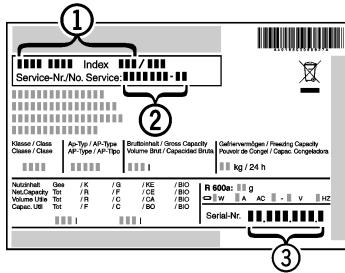

Fig. 10
- Read the appliance designation *Fig. 10 (1)*, service no. *Fig. 10 (2)* and serial no. *Fig. 10 (3)* from the rating plate. The rating plate is located inside the appliance on the left-hand side.
- Notify a qualified service provider, specifying the fault, appliance designation *Fig. 10 (1)*, service no. *Fig. 10 (2)* and serial *Fig. 10 (3)* no.